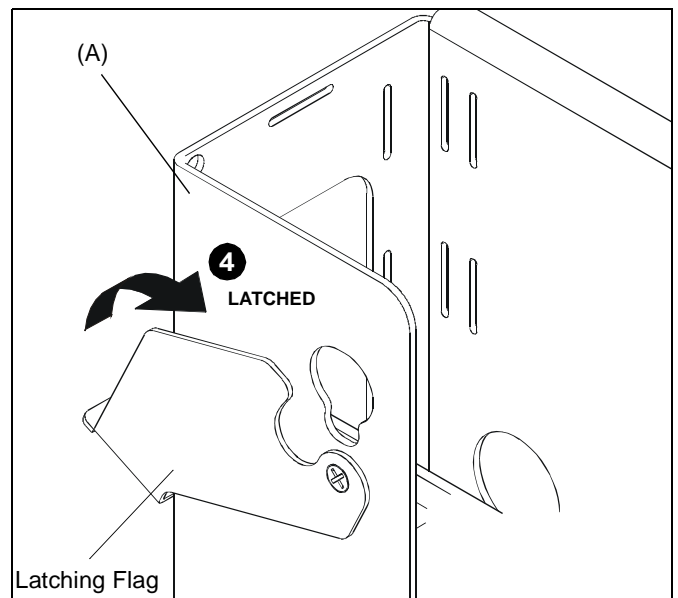

Figure 6
4. Secure display by rotating latching flag to the LATCHED position (See Figure 6). If latching flag does not fully engage, ensure mounting buttons are fully seated in teardrop slots.